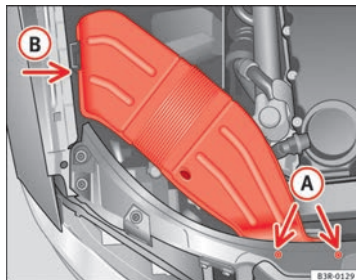

Fig. 217 Air duct on right side of vehicle
- Unscrew bolts **A** ⇒ Fig. 217.